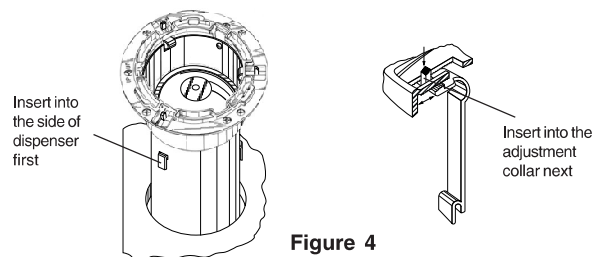

Figure 4
- 2 Locate the adjustment clip(s) that may have come out of the dispenser. The clip is probably not damaged; it is designed to be easily removed for cleaning. Re-install the adjustment clip by inserting at an angle into the side of the dispenser and then into the adjustment collar (Figure 4). Proceed to "Adjustment Instructions" on left side of page.